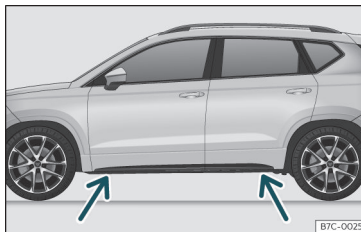

Fig. 62 Crossbar: brands.
- Find the support point on the strut (sunken area) closest to the wheel to be changed »» Fig. 62.